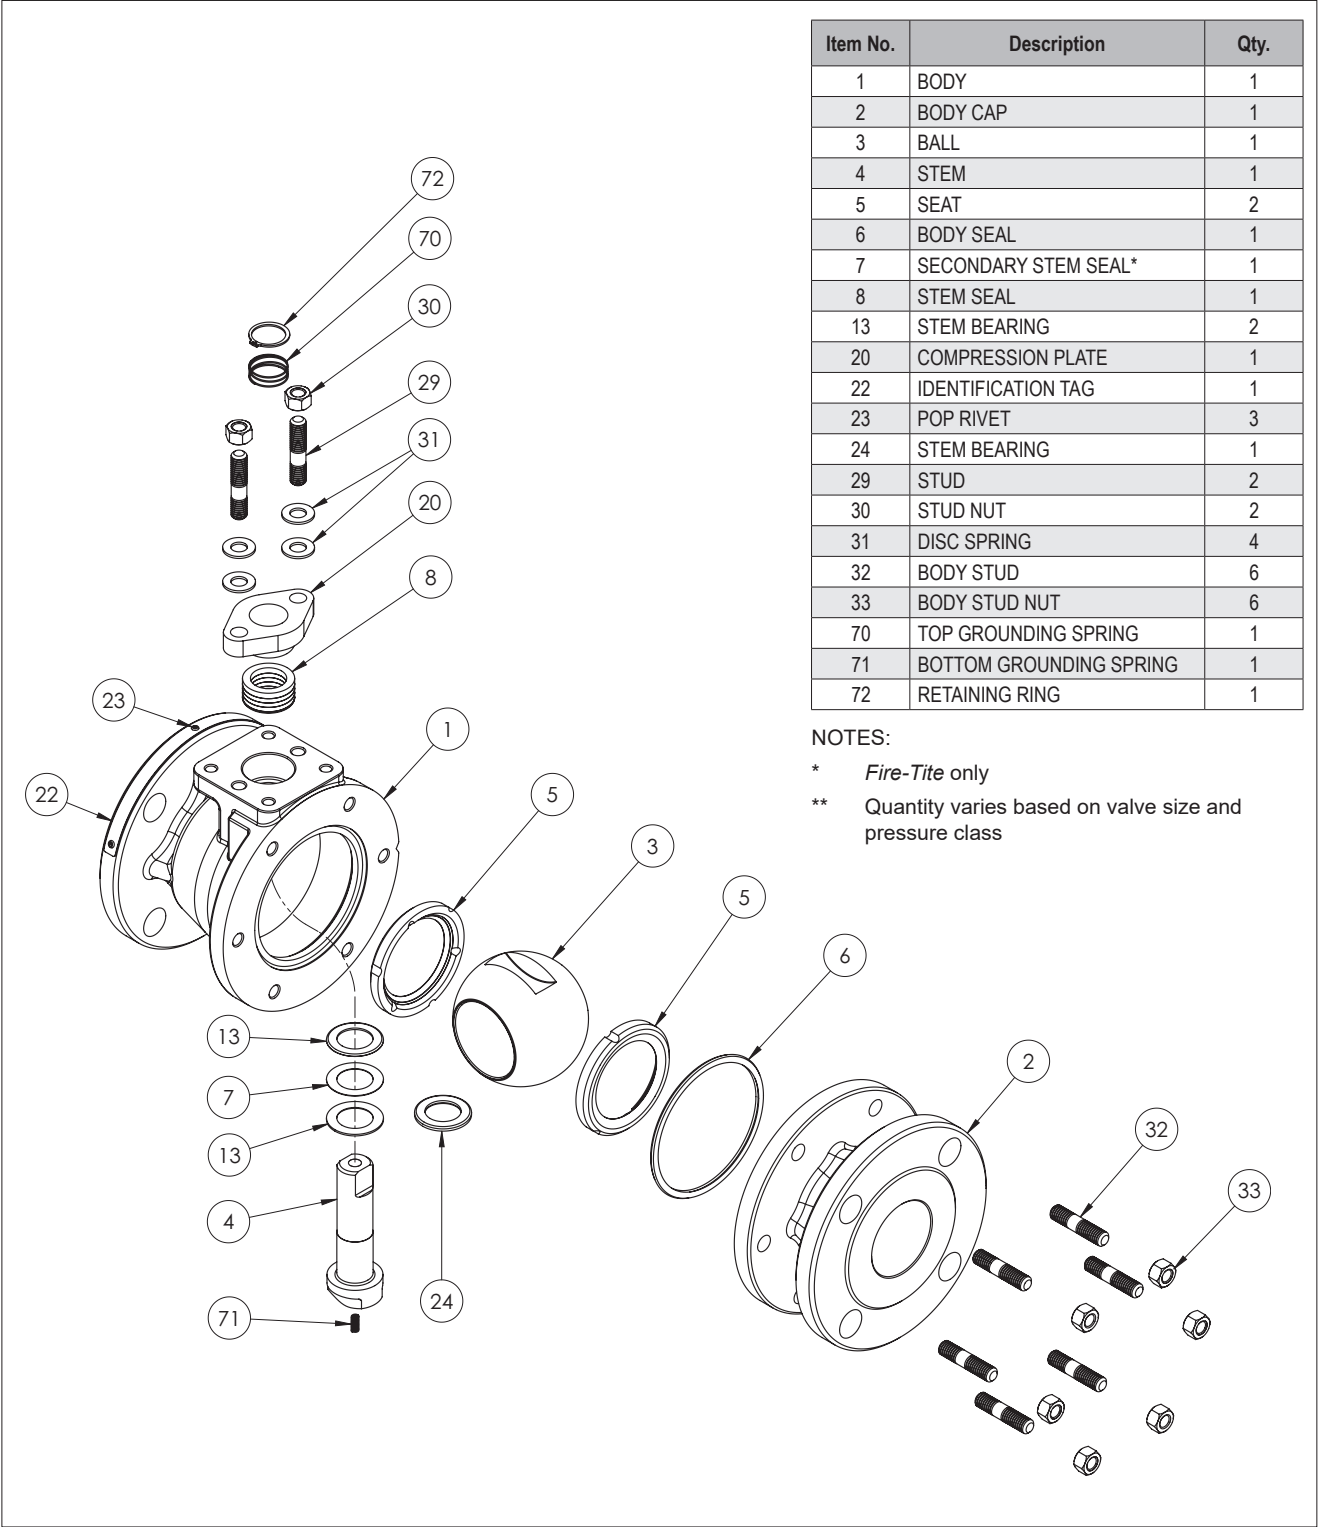

Figure 18.
- From **Figure 18 or 19**, the ballooned part number, part name and quantity required